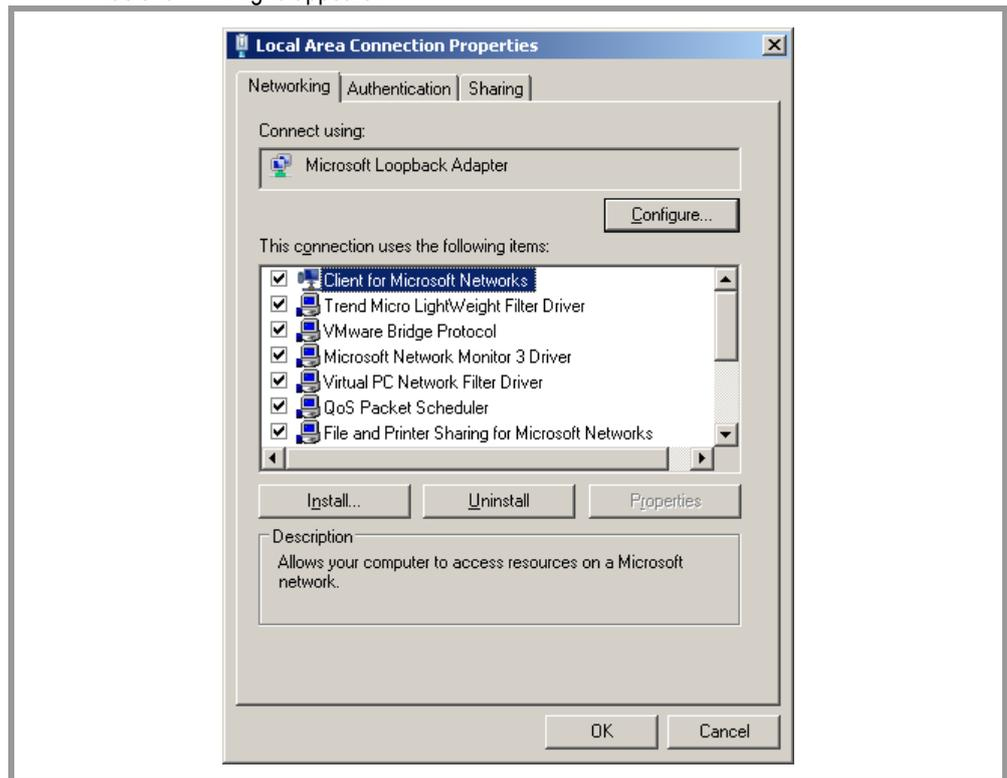

Fig. 6 Properties dialog for the “Local Area Connection”
2. Open the “Properties” dialog of the connection labeled “Local Area Connection”. The dialog as shown in Fig. 6 appears.